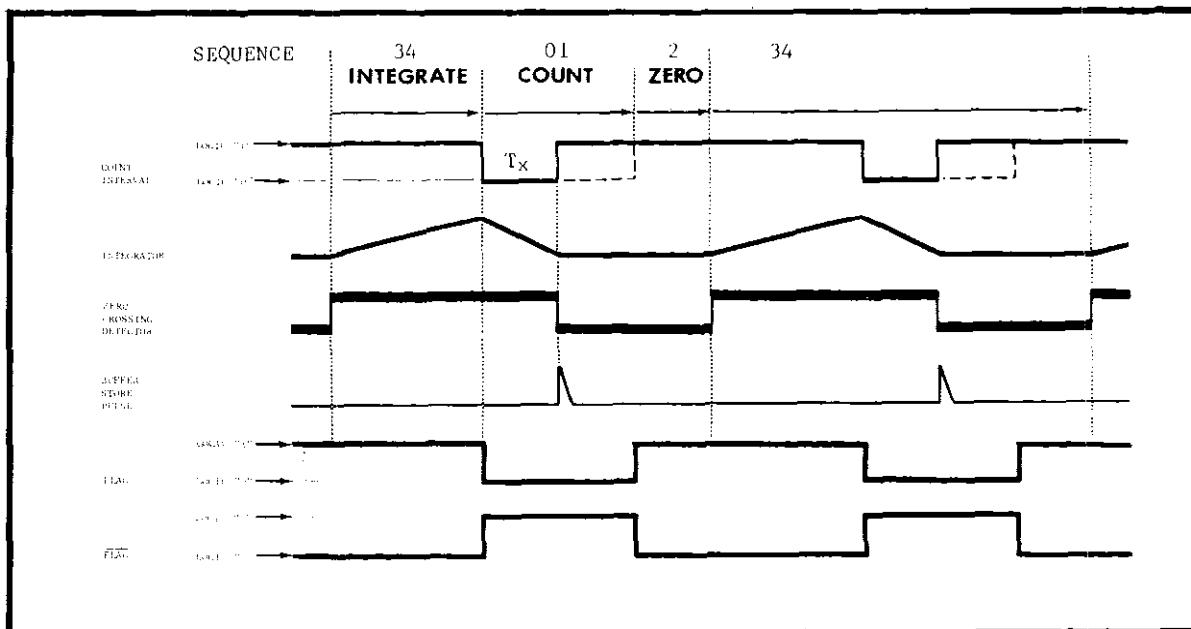
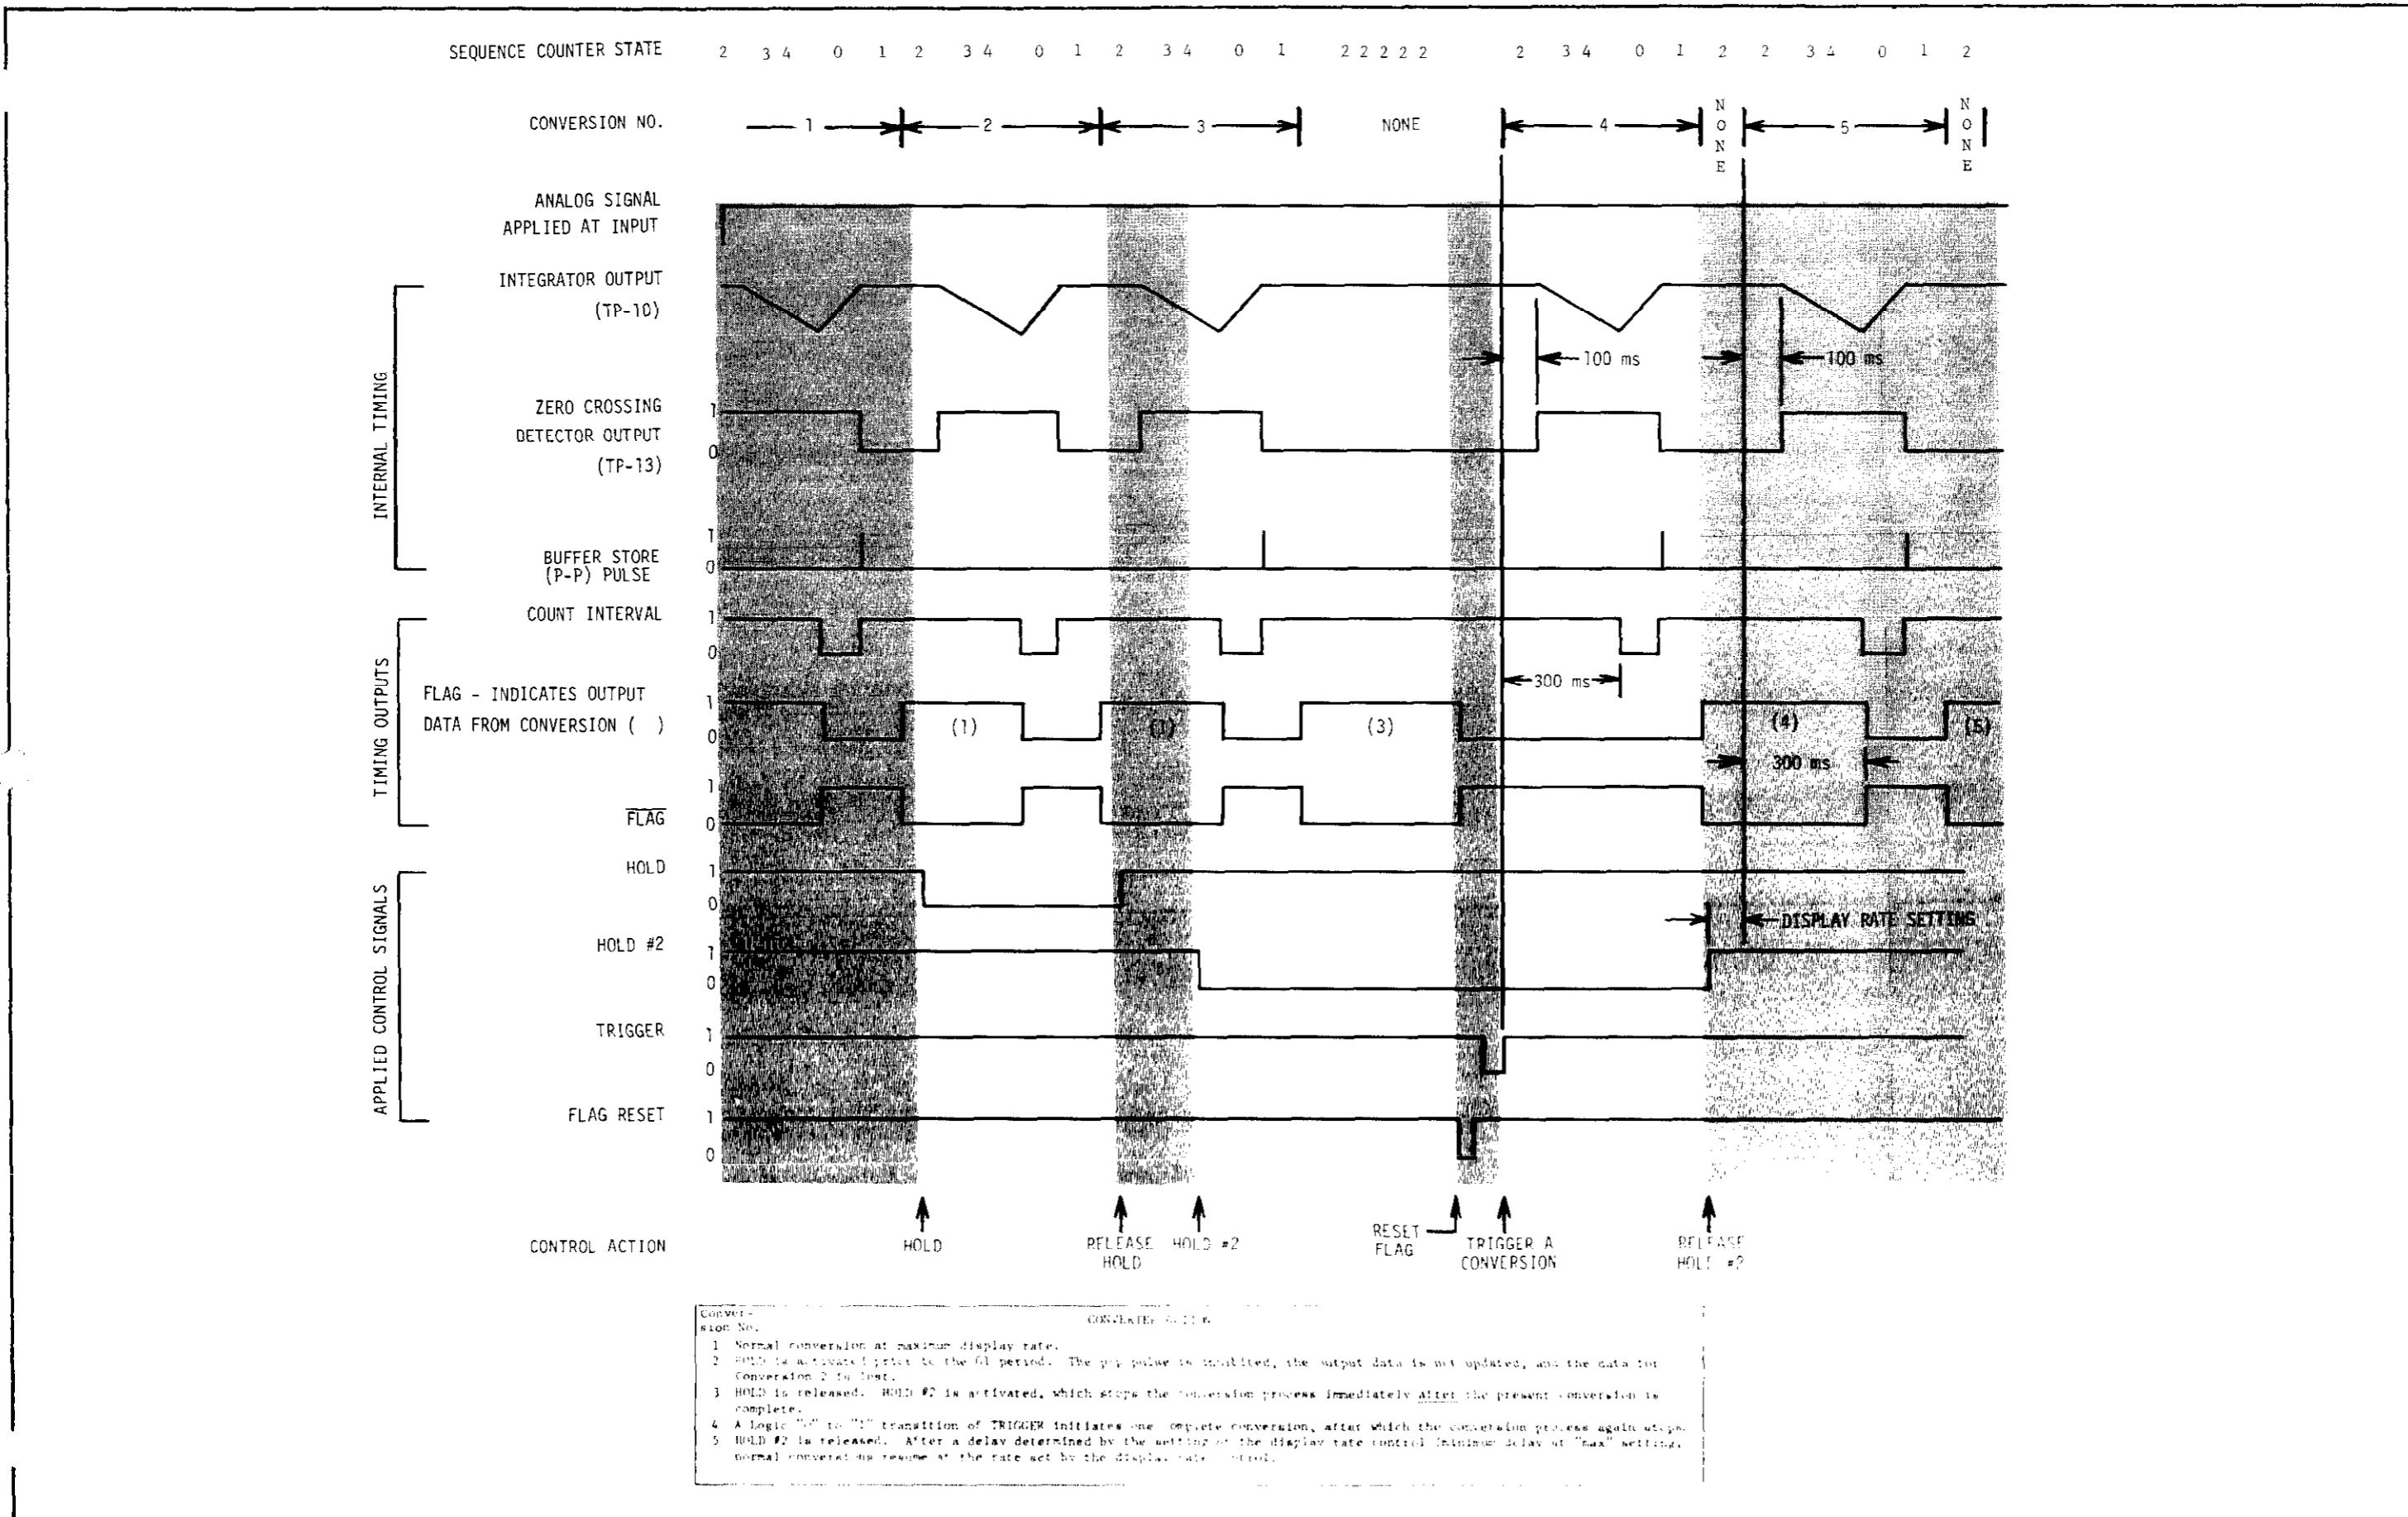

FIGURE 7b. Timing Diagram.
FIGURE 7c. CONTROL TIMING DIAGRAM: MODELS 180 AND 1802
4. Timing Diagrams. The timing diagram shown in Figure 7b illustrates the time sequence of a single overall A-to-D conversion cycle. Figure 7c shows how the conversion cycle is controlled by the Hold and Trigger lines.
a). Integrate Period (34). During this period the analog signal is applied to the integrating amplifier. The slope of the ramp waveform shown in Figure 7b has a sign opposite the polarity of the input signal.
b). Count Period (01). During this period the integrating amplifier is driven to zero by the proper polarity discharge voltage (the analog signal is removed from the integrating amplifier). During this period a p-p pulse is generated which updates the data in the latches.
c). Zero Period (2). During this period the integrator is zeroed and the decade counters are reset prior to a new conversion cycle.
b) COUNT INTERVAL: This line is at Logic "0" for a time (T_x in Fig. 7b) proportional to the input signal; 10 μs corresponds to 1 digit. The COUNT INTERVAL output may be used with an external binary ripple counter and gate to obtain a reading directly in binary form. The Logic "0" to "1" transition of COUNT INTERVAL Occurs prior to the p-p pulse. Therefore it is not intended for use as a Flag.
2. External Triggering (using TRIGGER and HOLD #2 controls): FLAG remains in the Logic "1" state until 100 ms after the next trigger (see Fig. 7c, Control Timing Diagram). It then goes to Logic "0" for 200 ms, then back to Logic "1" indicating that a new reading is available at the data lines. If it is desired that Flag be in the Logic "1" state only after new data is available, FLAG must be reset prior to the Logic "0" to "1" transition of TRIGGER or HOLD #2.